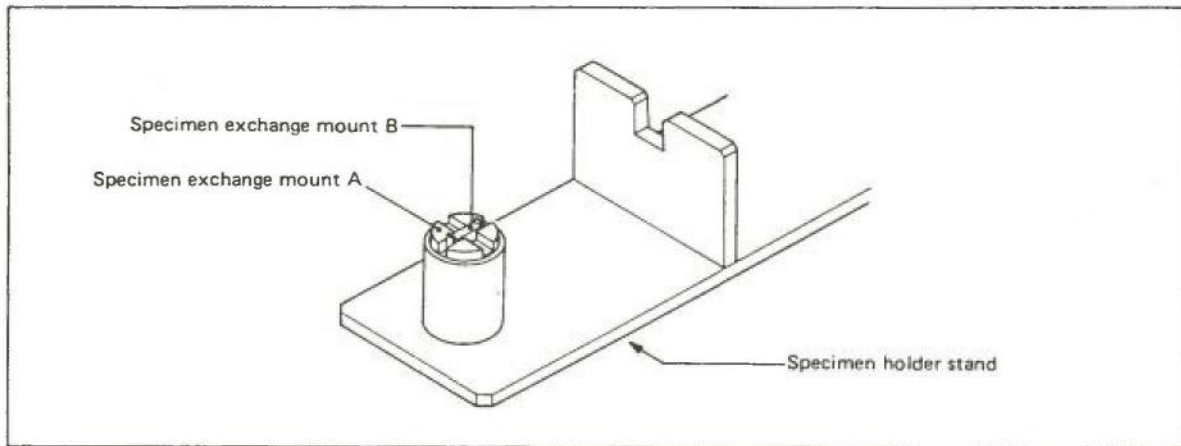

Fig. 4.3 Mounting the specimen exchange mounts
2. Place specimen exchange mount A in the specimen holder stand so that mount B is oriented as shown in Fig. 4.3.